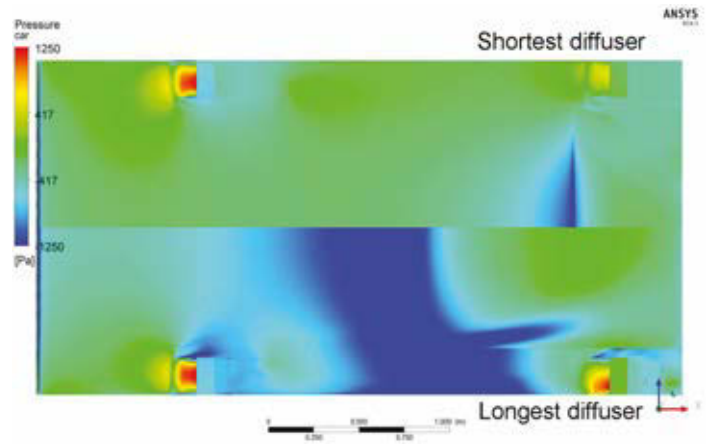

Figure 18: Pressure distribution was markedly different with the longest diffuser
**Figure 18** once again shows the pressure distributions on the lower surface of the shortest and longest diffusers tested. Not only did the suction peak at the diffuser transition